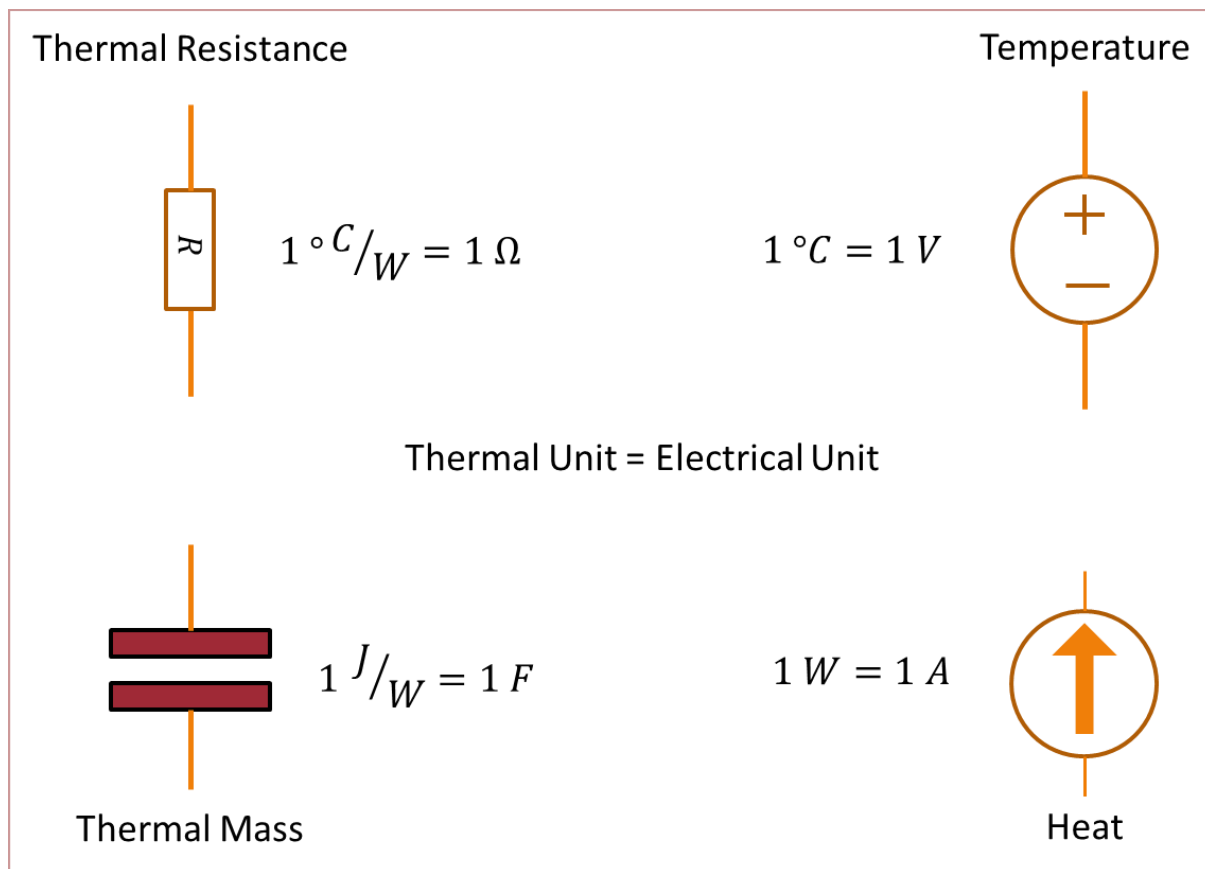
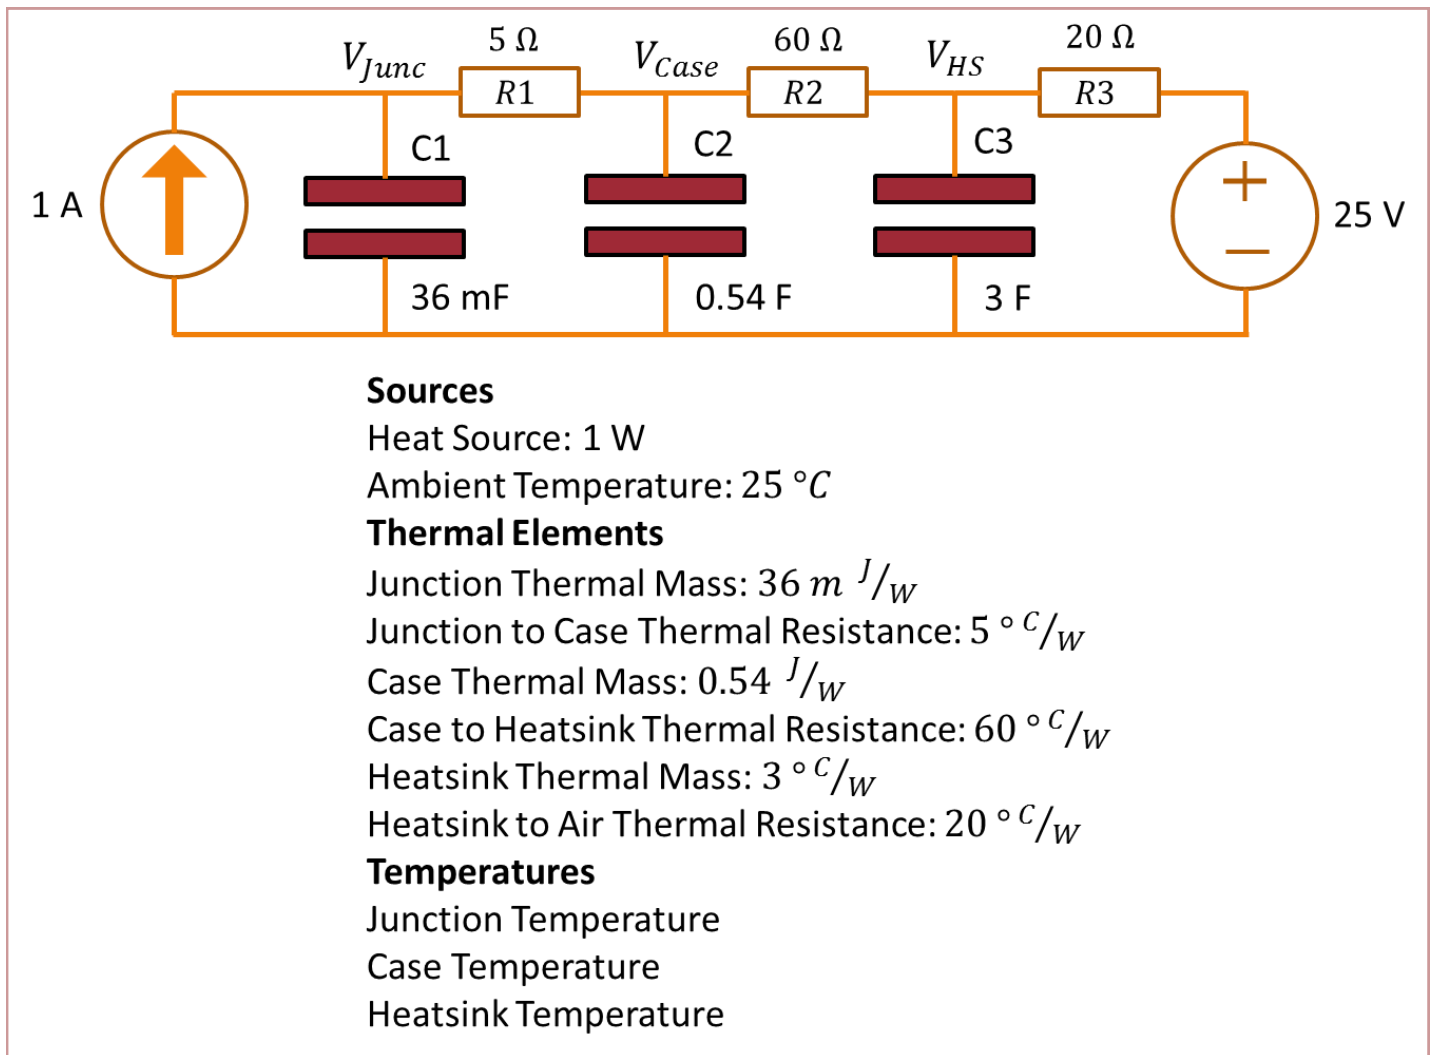

Figure 6. Representing thermal units as electrical units.
Figure 7. Thermal model using electrical analogs of a linear regulator connected to a heatsink.
You may have noticed that it takes time for an object to heat up. A larger object takes longer to heat up than a small object. The reason for this is due to the “thermal mass” of the object. Thermal mass is modeled with a capacitor. This is because the time it takes for a capacitor to charge up is analogous to the time it takes an object to heat up. The units of thermal mass are joules/°C. This is a measure of how much energy is needed to heat up the object by 1°C. The electrical models for thermal elements are shown in Fig. 6. Heat is modeled as a current since both heat and current can flow from one location to another. Thermal resistance and mass are modeled as resistances and capacitances respectively. Temperature is modeled as voltage. A simple model of a linear regulator dissipating heat into a heatsink is shown in Fig. 7. The model is an electrical circuit with electrical units and represents the thermal circuit with thermal units listed in the table below. Circuit analysis can be used to determine the temperature behavior as a function of time. This can be complex due to the three time constants so it is best to simulate this in LTSpice. The capacitors are not needed for steady state analysis. If only the final temperatures need to be calculated only the thermal resistances need to be used and the voltage calculated at each node represents the temperature at that node.
7. Use the thermal model of Fig. 7 to calculate the estimated power dissipation of the regulator. Ignore the capacitances and use the measured value to represent the heatsink temperature. Calculate the power and junction temperature. **(Hand Calcs)**